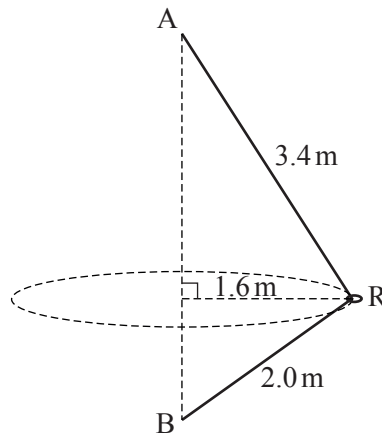

Fig. 2
- 2 (a) The fixed point A is vertically above the fixed point B. A light inextensible string of length 5.4 m has one end attached to A and the other end attached to B. The string passes through a small smooth ring R of mass 0.24 kg, and R is moving at constant angular speed in a horizontal circle. The circle has radius 1.6 m, and  $AR = 3.4$  m,  $RB = 2.0$  m, as shown in Fig. 2.